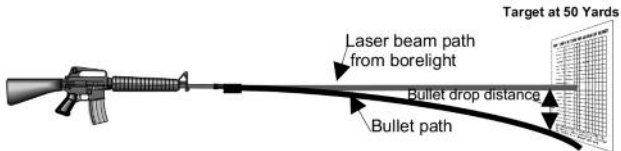

Figure 3-2
2. A bullet fired from a weapon held parallel with the ground immediately starts to drop as soon as it leaves the barrel. The actual rate of drop is determined in part by the velocity of the bullet. The path of the bullet will always be below the straight line of laser light projected from the borelight. See Figure 3-2.